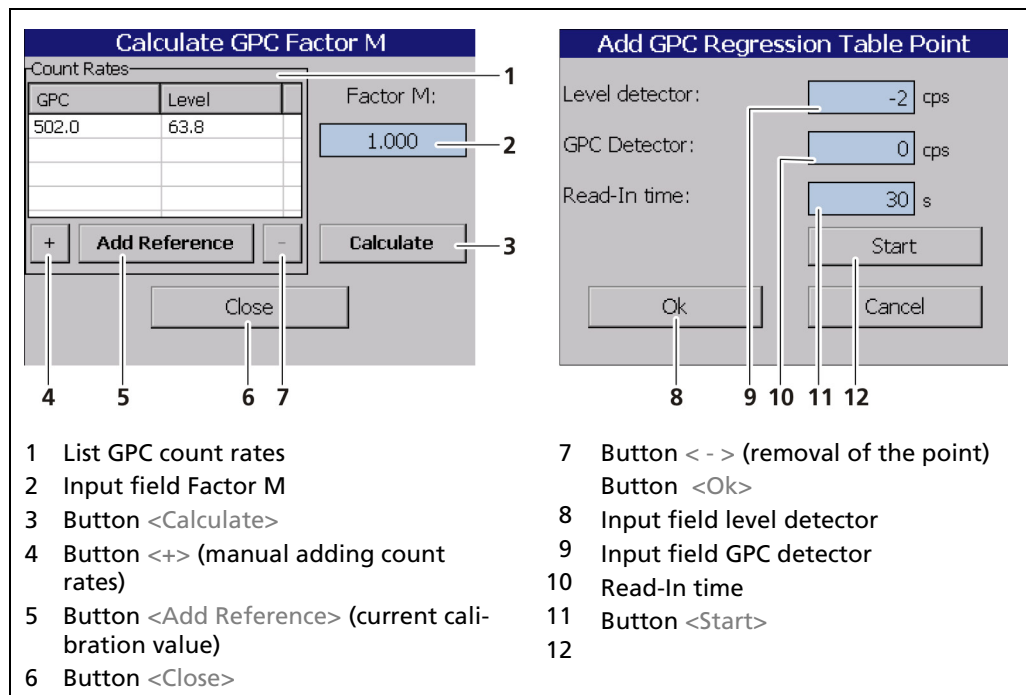

Fig. 97 GPC calibration: calculate factor M
To calculate the correct factor M, click on the input field for the factor M. In this table the first calibration point can be inserted directly from the available data with the button <Add Reference> (Fig. 97, item 5). At least one more point is required to calculate a factor M. This second point is ideally taken at the highest occurring gas density. Further table points with other gas densities improve the accuracy of Factor M. With the button <Calculate> (Fig. 97, item 3) the factor M is calculated from the table values.
If it is not possible to capture the count rates, the values may be entered manually into the input fields (Fig. 97, item 9 and item 10).
1. Click on the < + > button (Fig. 97, item 4) to add a new point.
2. Click on the input field "Read-In-Time" (Fig. 97, item 11) and enter a measurement time. Confirm with the Enter key.
3. Click on the button <Start> (Fig. 97, item 12). Make sure that the actual level in the container does not change during the read-In time.
4. A new point is added when clicking on the button <Add Reference> (Fig. 97, item 5), which takes over the count rates of the measurement during calibration.
The "Factor M" (Fig. 97, item 2) is close to 1 (default value) for standard applications.
1. Click the button <Calculate> (Fig. 97, item 3) to determine Factor M from the count rate.
- ▶ Factor M has been calculated and is displayed in the input field (Fig. 97, item 2).
2. Click the button <Close> (Fig. 97, item 6) to return to "GPC calibration" in the submenu.
The M factor can be entered manually (Fig. 97, item 2), if a determination of the counting rates is not possible.